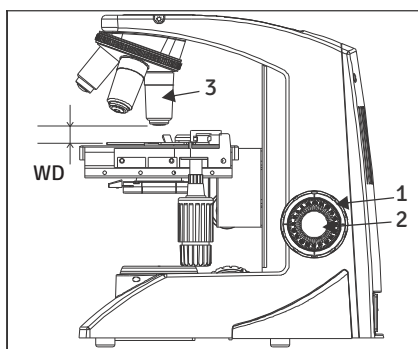

Fig. 20
1. Rotate the coarse adjustment knob (1) clockwise so that the objective (3) is as close as possible to the specimen (we recommend starting with 10X). See figure 20.
2. While observing the specimen through the eyepieces, slowly rotate the coarse adjustment knob (1) counterclockwise to lower the stage.
3. When coarse focusing of the specimen is obtained (an image is observed), rotate the fine adjustment knob (2) for fine detail focusing.
**Working Distance (WD)**